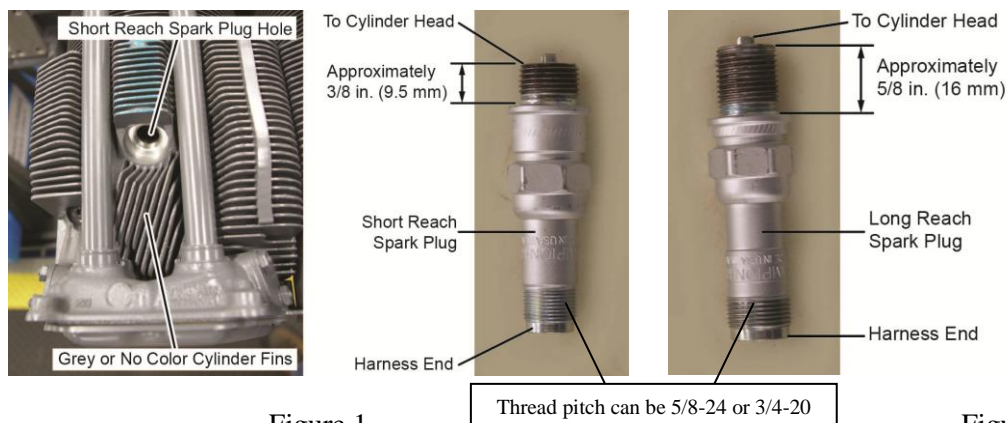

Figure 1
This Service Instruction identifies the various short reach (Figure 1) and long reach (Figure 2) spark plugs (Tables 2 through 5) approved for installation on Lycoming engine models as well as guidelines for correct spark plug installation.
Cylinders that use short reach spark plugs have gray paint or no other special identifying color on the cylinder fins between the spark plug hole and the rocker covers (Figure 1). Engines with long reach spark plugs are identified by yellow paint on the cylinder fins between the spark plug hole and the rocker covers where shown in Figure 2.
- Spark plug thread pitch (Figures 1 and 2)